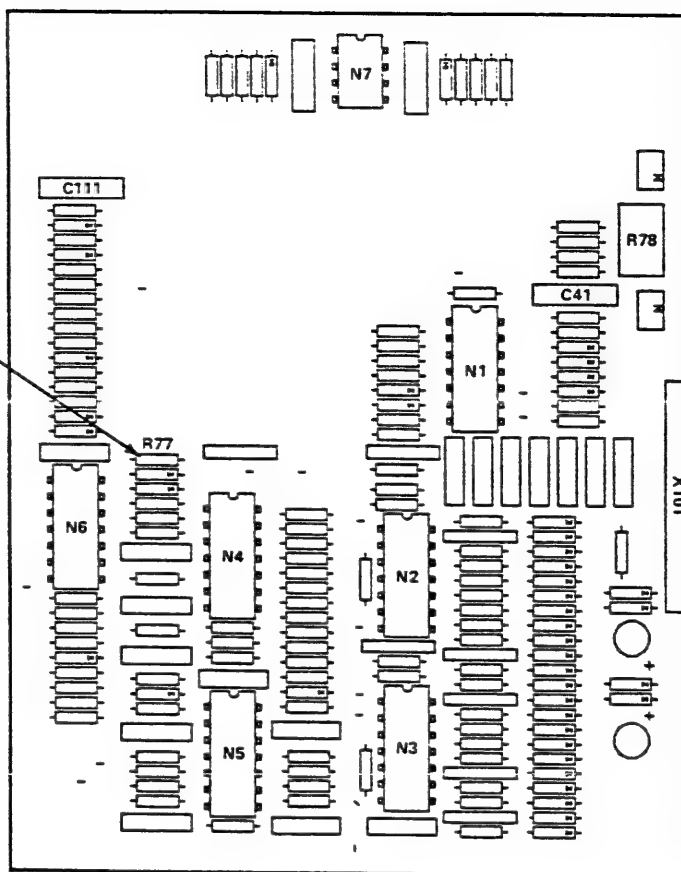

Figure 1
- Solution:** Increase the value of R77 on the Control PWA (Figure 1). The present value of 6.1 k-Ohms limits the film speed to approximately 10 feet per second. By increasing the resistance to 10.0 k-Ohms the film speed would be reduced to approximately 5 feet per second.